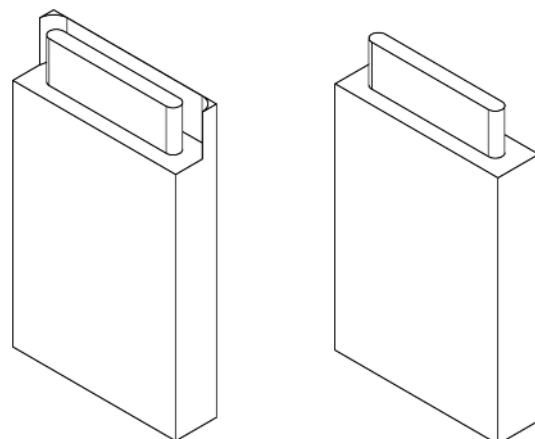

Fig. 23
*Tip:* depending on the actual thickness of your stock, you may at times get a "fence" or "flash" around the edge of your tenon (Fig 23). Be sure to cut, file or sand it off cleanly to ensure a tight fit.